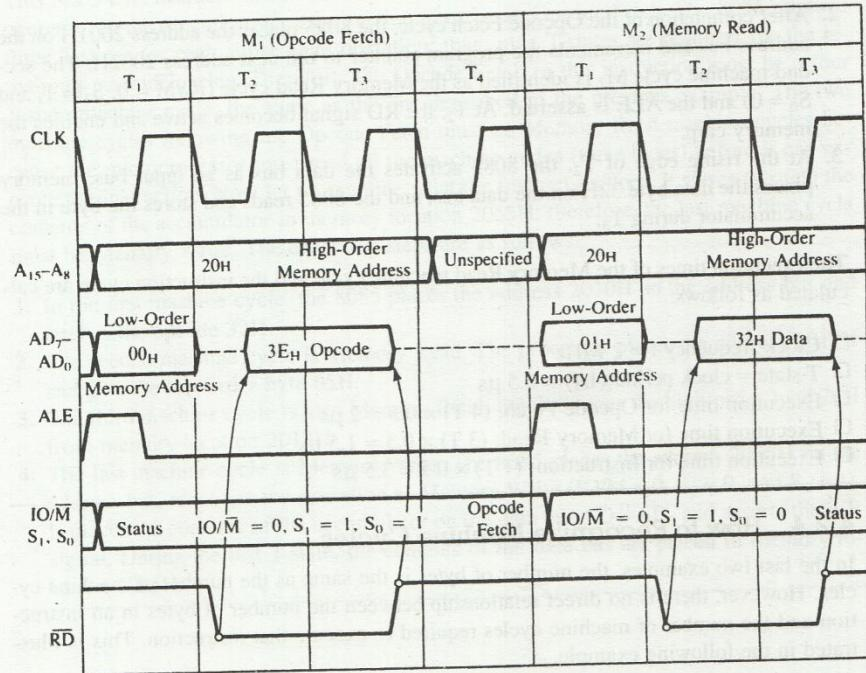

FIGURE 4.10
- ❑ See Figure 4.10 in Text Book